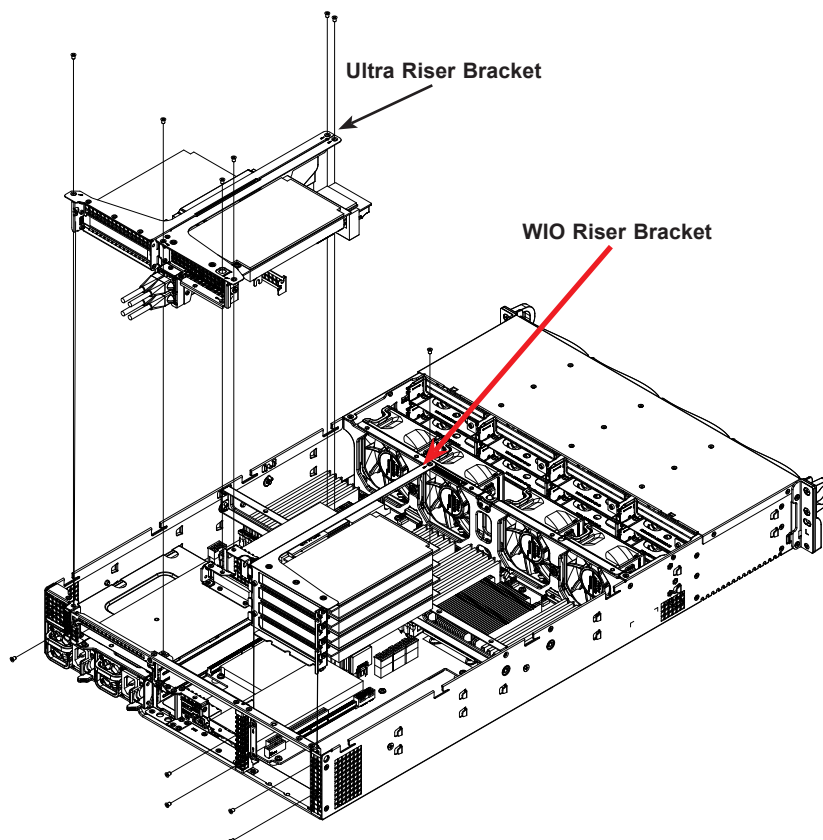

Figure 3-22. Expansion and Riser Cards—Rear View
1. Remove the left riser card bracket as described in Figure 3-22.